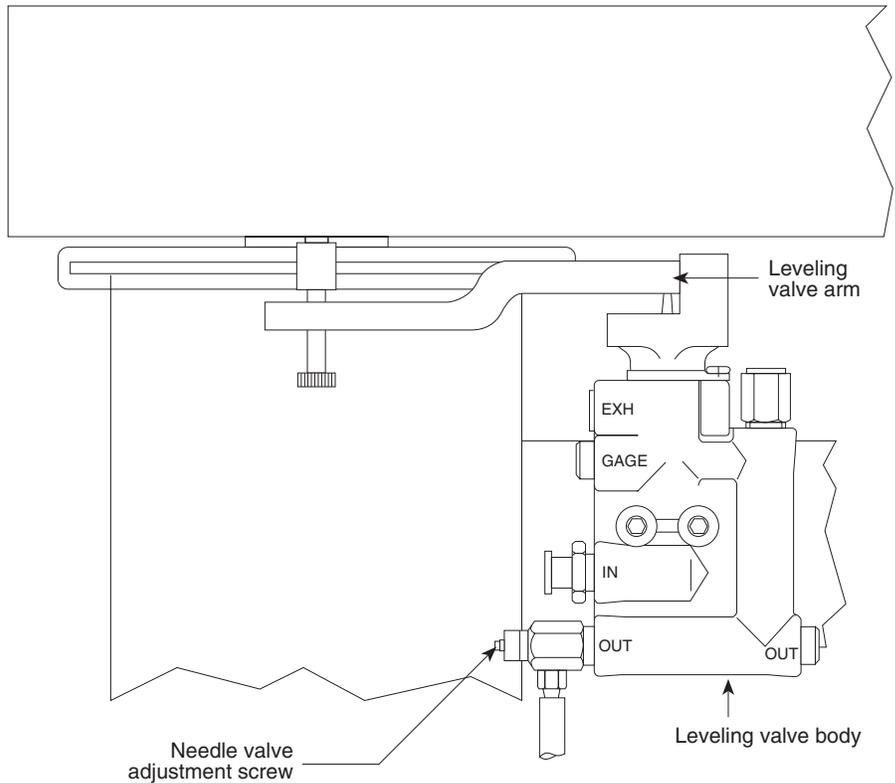

Figure 2.6 — Leveling Valve
- B. Fully close (turn clockwise), using a screwdriver, the needle valves located on the leveling valves (figure 2.6). Then open each needle valve approximately $\frac{1}{8}$ turn for each isolator the valve supplies. i.e. the single valve at the right side of the VW controls the two right side isolators and must be opened $\frac{1}{4}$ turn.